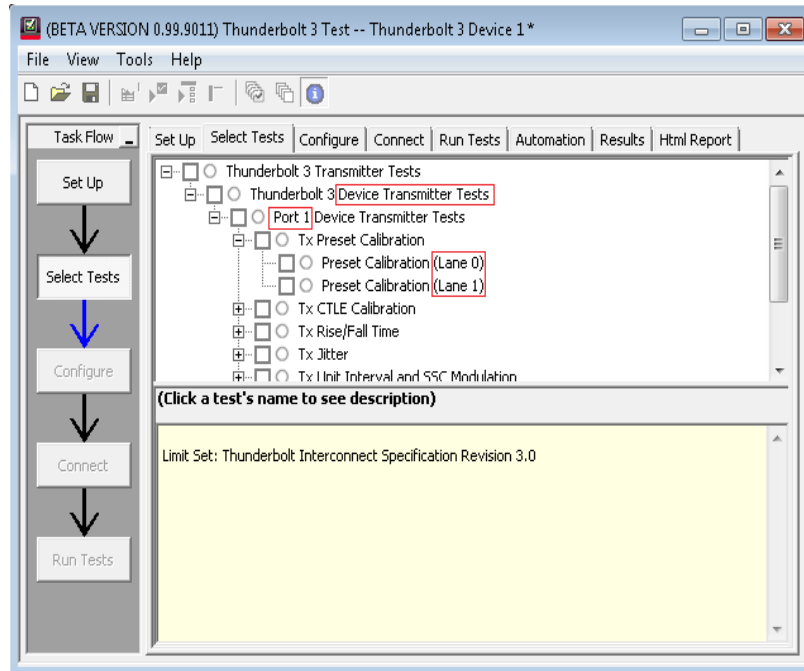
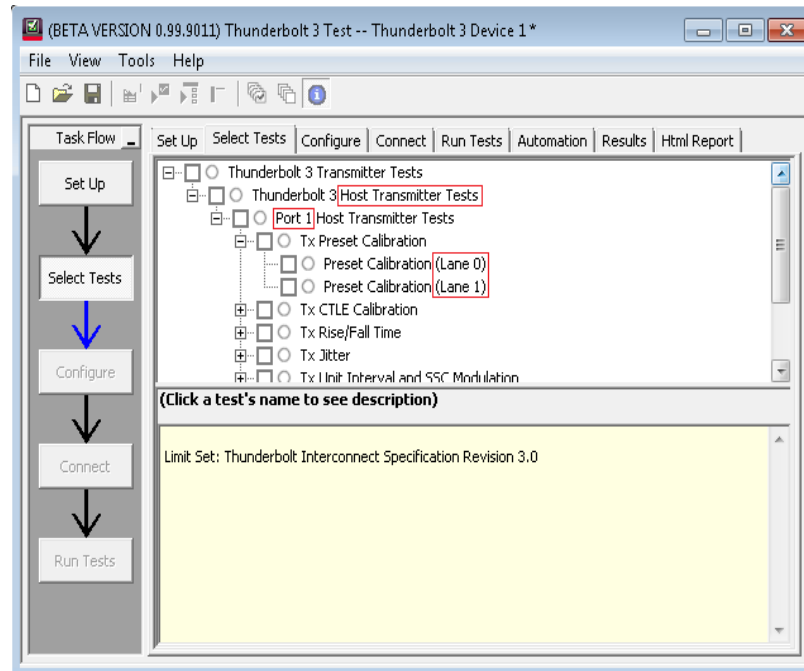

Figure 59 Select Transmitter Tests for DUT Type “Device” on 1-Port, 2-Lanes
Figure 60 Select Transmitter Tests for DUT Type “Host” on 1-Port, 2-Lanes
- 3 Based on your choices under the **Set Up** tab, the **Select Tests** tab displays the associated tests. For example, Figure 59 shows the compliance tests for DUT Type “Device” with 1-Port, 2-Lane system and Figure 60 shows the compliance tests for DUT Type “Host” with 1-Port, 2-Lane system. Select the tests that you want to run using the Thunderbolt Electrical Compliance Test Application. Refer to the *Keysight N6470A Thunderbolt Electrical Compliance Test Application Online Help* to know more about how to select tests.